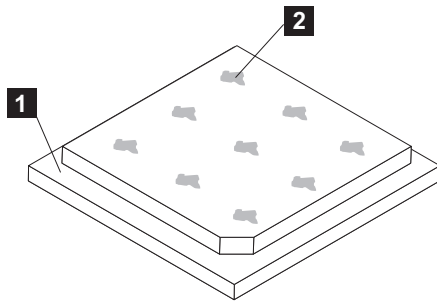

Figure 253. Applying thermal grease to the SAN Volume Controller 2145-CF8 microprocessor
- e. Use the thermal-grease syringe to place 9 uniformly spaced dots of 0.02 mL each on the top of the microprocessor, as shown in Figure 253 on page 270. The outermost dots must be within approximately 5 mm of the edge of the microprocessor to ensure uniform distribution of the grease.